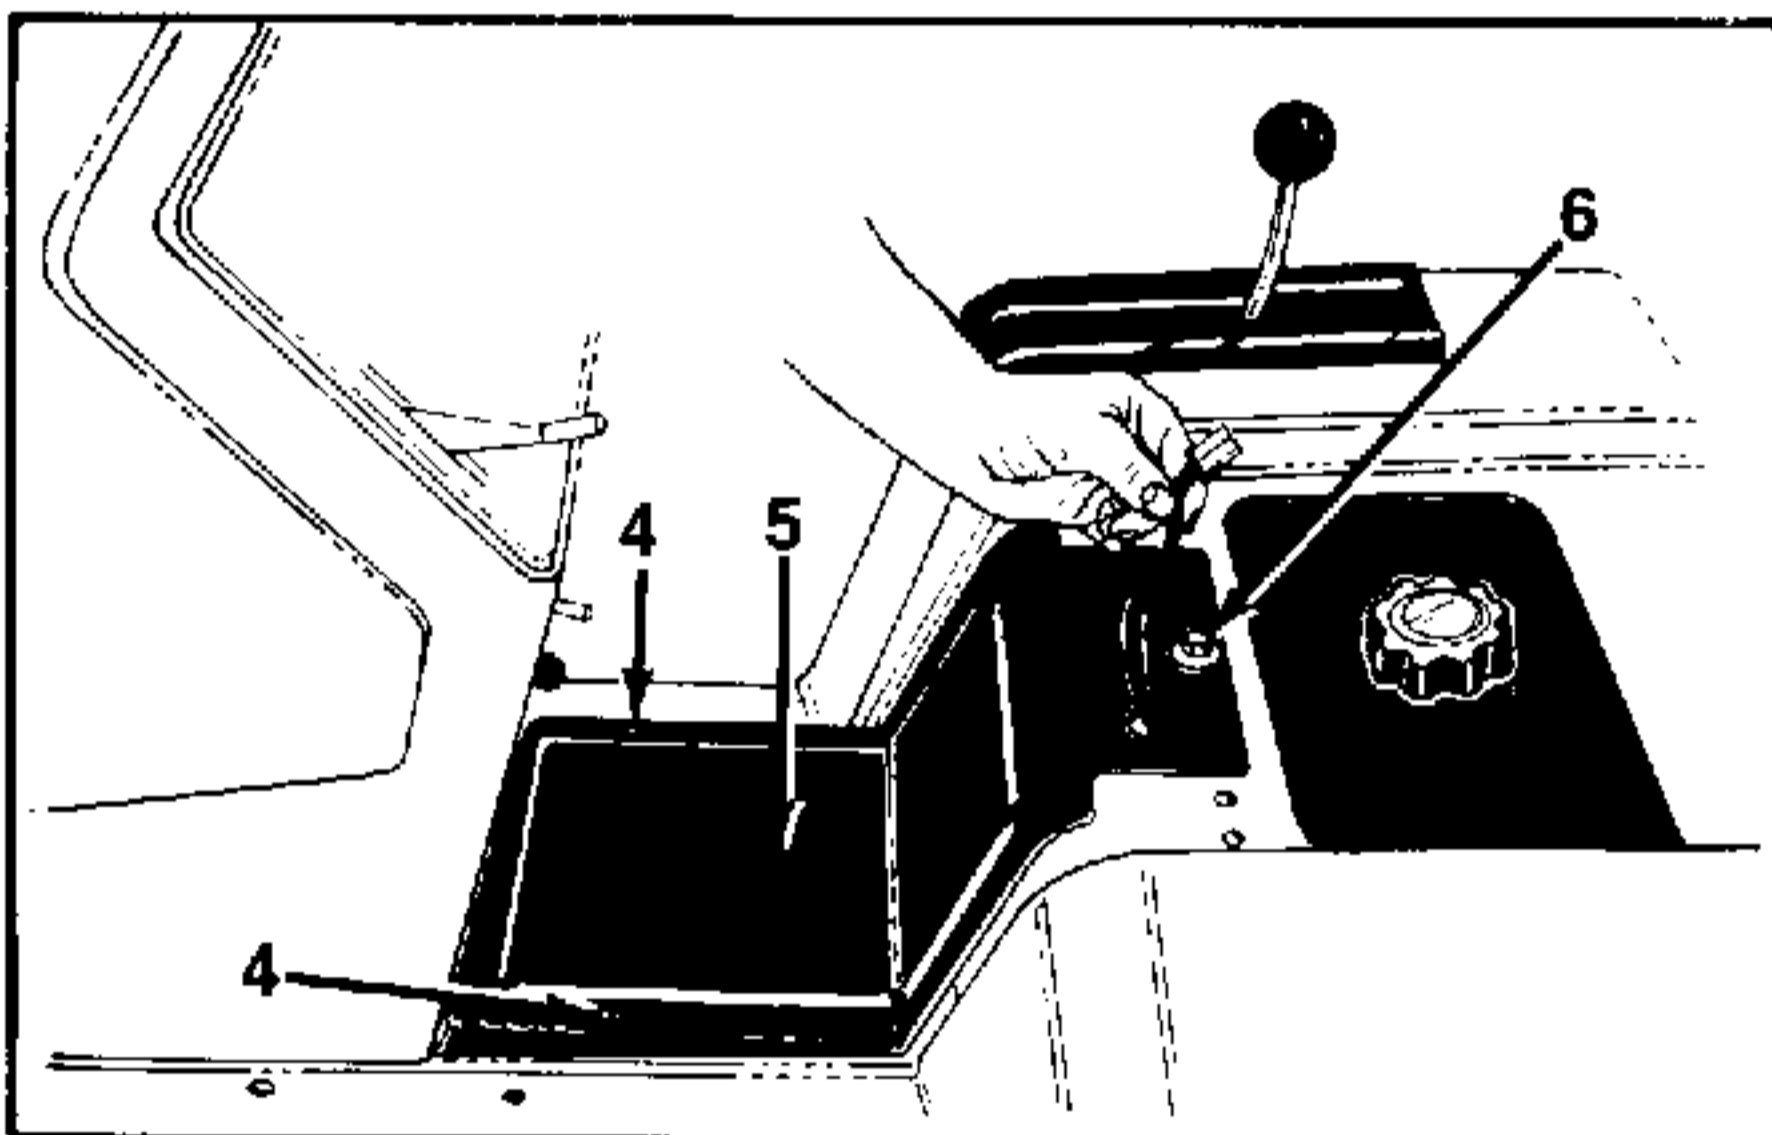

FIGURE 2.
3. Remove the center cover (Ref. 5) by removing two screws (Ref. 4) and one hex bolt and flat washer (Ref. 6). See figure 2.